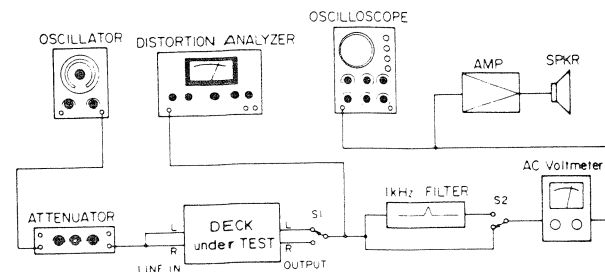

Fig. 6-1 Basic test setup
18. Erase efficiency	• Connection is same as in Fig. 6-1, but engage 1-kHz filter. • Record a 1-kHz signal. Rewind tape to midpoint of recorded portion. • Record a "no signal" portion. Find the difference between the 1-kHz portion and the "no-signal" portion.
19. REC MUTE function	• Connection: Fig. 6-1, but engage 1-kHz filter. • Record a 1-kHz signal. Hold REC MUTE button depressed for several seconds. (At this time, make sure LED on the button lights). Rewind and play the tape. Find the difference between the 1-kHz portion and the "no-signal" portion.
20. Channel separation	• Connection Fig. 6-1, but do not connect LINE IN (R), and engage 1-kHz filter. • Set the deck to record mode. Find the difference between the 1-kHz recorded portion (L-ch) and the "no signal" portion (R-ch).